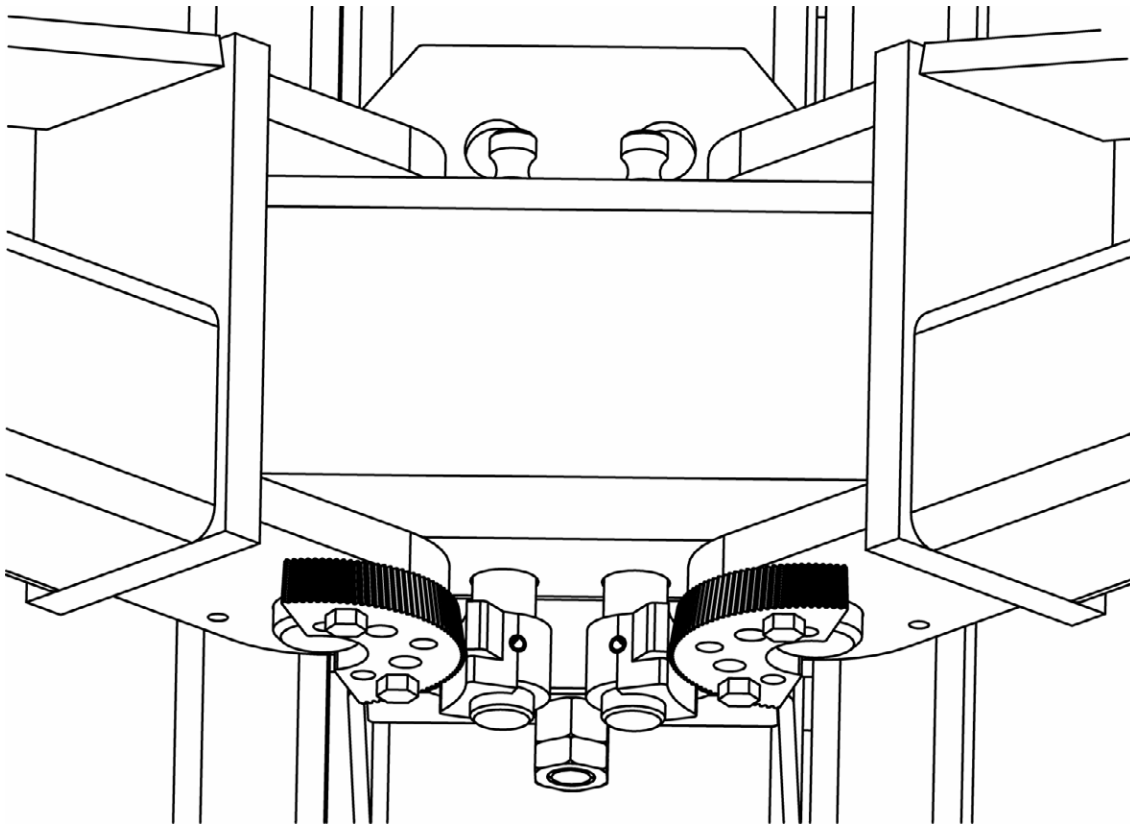

Figure 16
- B. Position the gears with word TOP against the bottom of the arms in the orientation shown in figure 16. Attach the gears to the arms with (2) 3/8-16NC X 1-1/2 long HHCS. Do not tighten at this time.